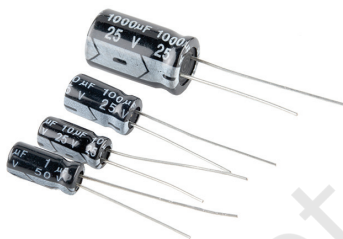

Fig. 3.8 Outer body of a capacitor
Capacitor uses a wide variety of codes to describe its characteristics (Fig. 3.8). It is difficult to read the value of a small capacitor as it is printed in very small font size. For many low-voltage circuits, it is important to know the capacitance value and voltage rating of the capacitor. Capacitance is measured in Farad (F).